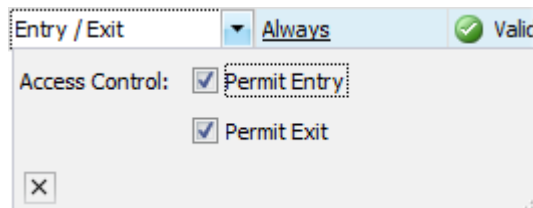

Figure 31
9. Depending on the entity selected in the “What” column, the “Options” column may have a drop-down selection available. *Figure 31* is an example of the Door control options.